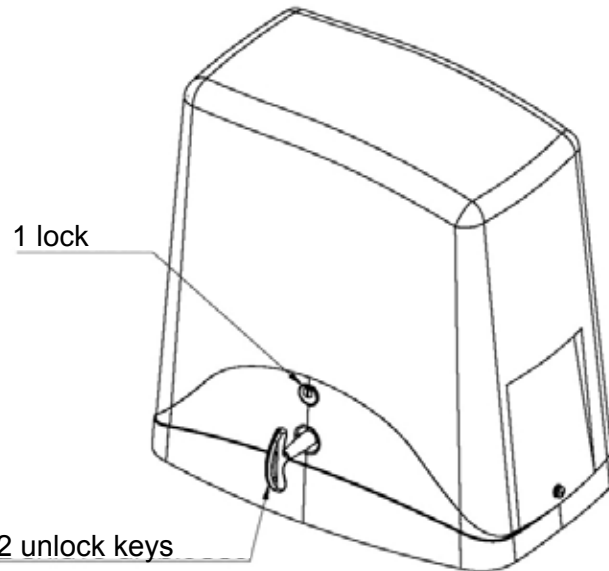

Fig. 3
1. Insert the key in position 1 lock and rotate 90° counter-clockwise (fig. 3)
2. Insert the unlock key in position 2 and rotate clockwise until complete unlock of the pinion (fig. 3).
For the correct installation of the ratchet unlock the reduction gear as shown in (fig. 3) and bring the gate to complete aperture.